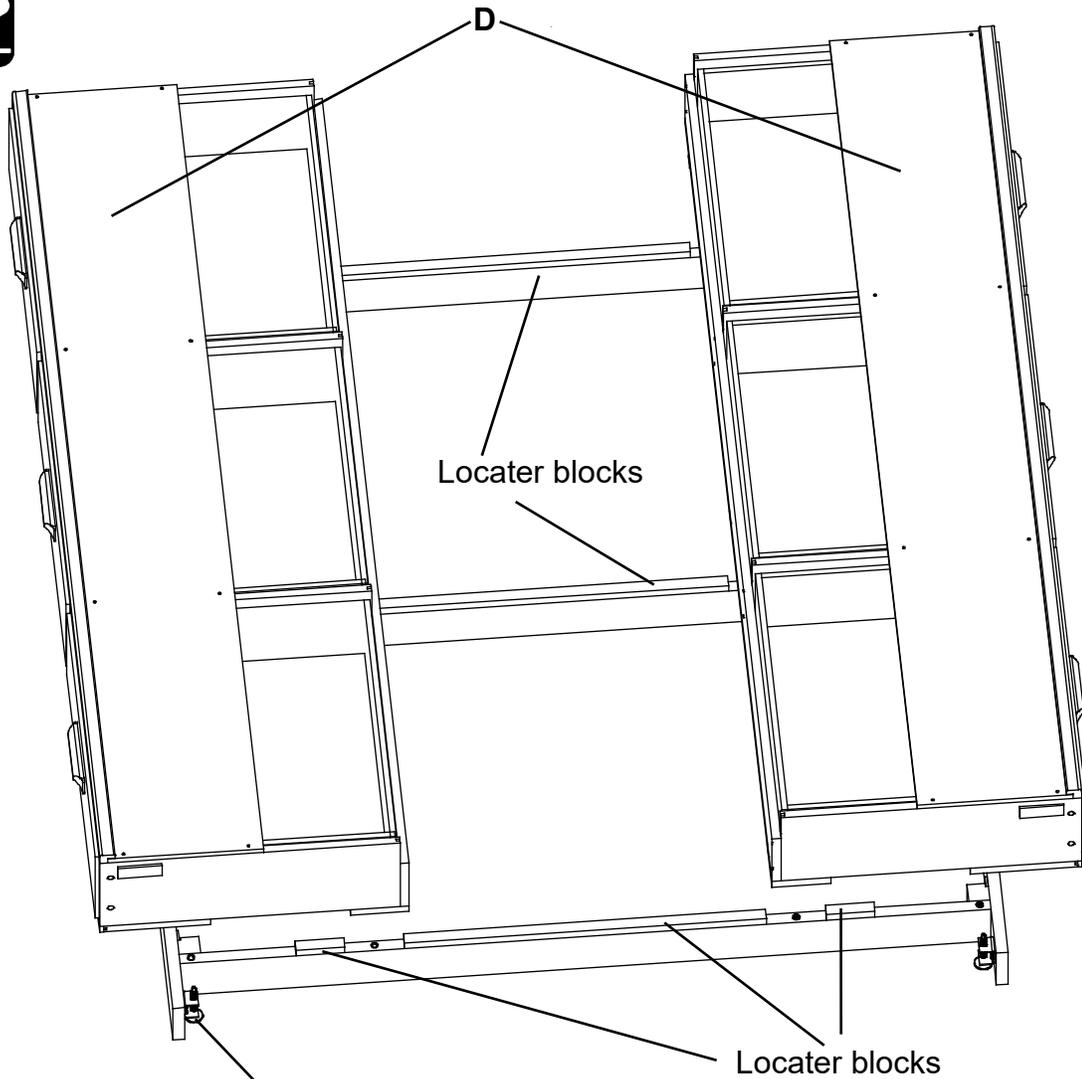

Fig. 3
- Place each pedestal (D) on top of the base kit against the side of and between the locator blocks of the Base Kit. See Figure 3.